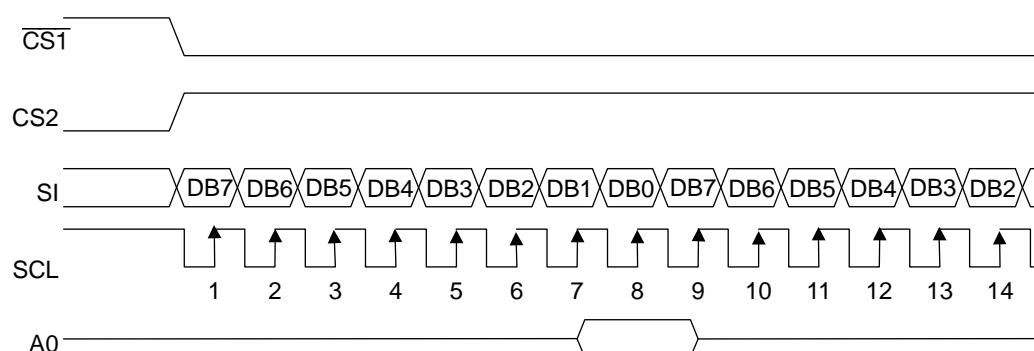

Fig. 1 Signal chart during serial interface
When the serial interface is selected ($P/\overline{S} = "L"$), the serial data input (SI) and the serial clock input (SCL) can be accepted if the chip is in the active state ($\overline{CS1} = "L"$ and $CS2 = "H"$). The serial interface consists of an 8-bit shift register and a 3-bit counter. The serial data is read in from the serial data input pin in the sequence DB7, DB6, ... , DB0 at the rising edge of the serial clock input, and is converted into parallel data at the rising edge of the 8th serial clock pulse and processed further. The identification of whether the serial data is display data or command is judged based on the A0 input, and the data is treated as display data when A0 is "H" and as command when A0 is "L". The A0 input is read in and identified at the rising edge of the $(8 \times n)$ th serial clock pulse after the chip has become active. Fig. 1 shows the signal chart of the serial interface. (When the chip is not active, the shift register and the counter are reset to their initial states. No data read out is possible in the case of the serial interface. It is necessary to take sufficient care about wiring termination reflection and external noise in the case of the SCL signal. We recommend verification of operation in an actual unit.)